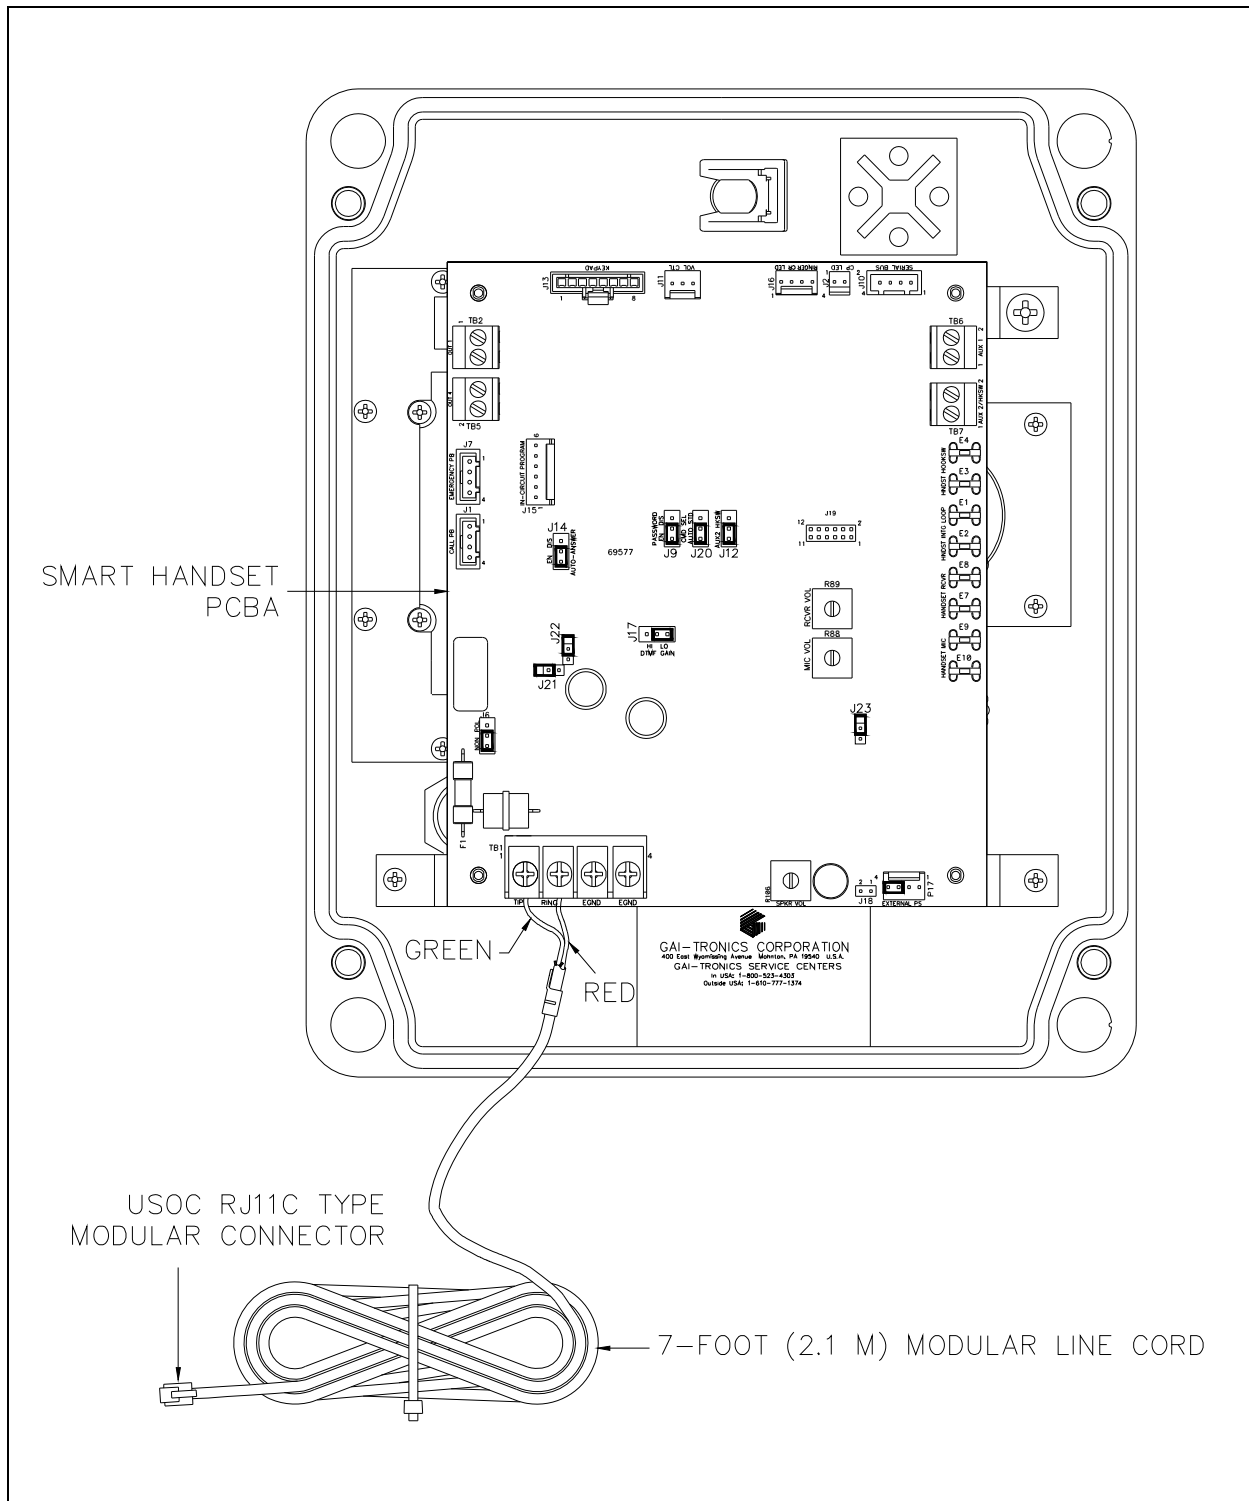

Figure 3. PCBA Connections for Models 246-005, 247-005, 256-005, and 257-005
1. Align the holes of the new PCBA with the snap-on nylon standoffs in the telephone, maintaining proper orientation. See Figure 3 as an example.
1. Align the holes of the new PCBA with the snap-on nylon standoffs in the telephone, maintaining proper orientation. See Figure 3.